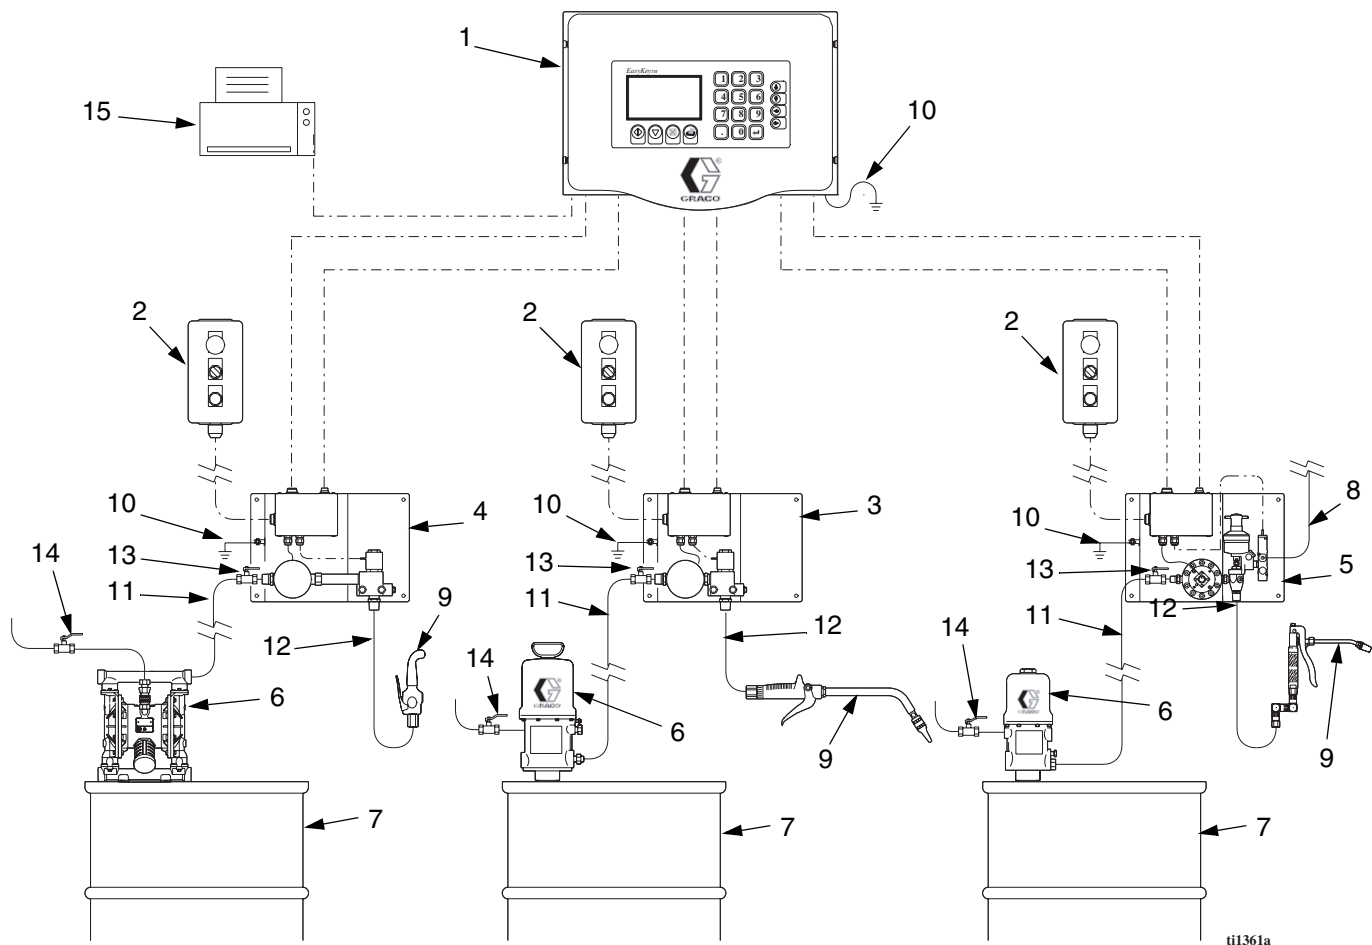

FIG. 5: ProDispense System - Typical Installation
- **FIG. 5** is not an actual system design. Contact your Graco distributor for assistance in designing your system.
Key for FIG. 5
Connect the fluid supply line (11) to the 1/2" npt(f) meter inlet. See FIG. 5. Connect a fluid dispense line (12) to the 1/2" npt(f) solenoid outlet. Connect the other end to the dispense valve (9).
Connect the 5 ft. (1.52 m) printer cable (provided with printer kit 239873) between the printer and controller printer connector marked . See **FIG. 5**, page 15.